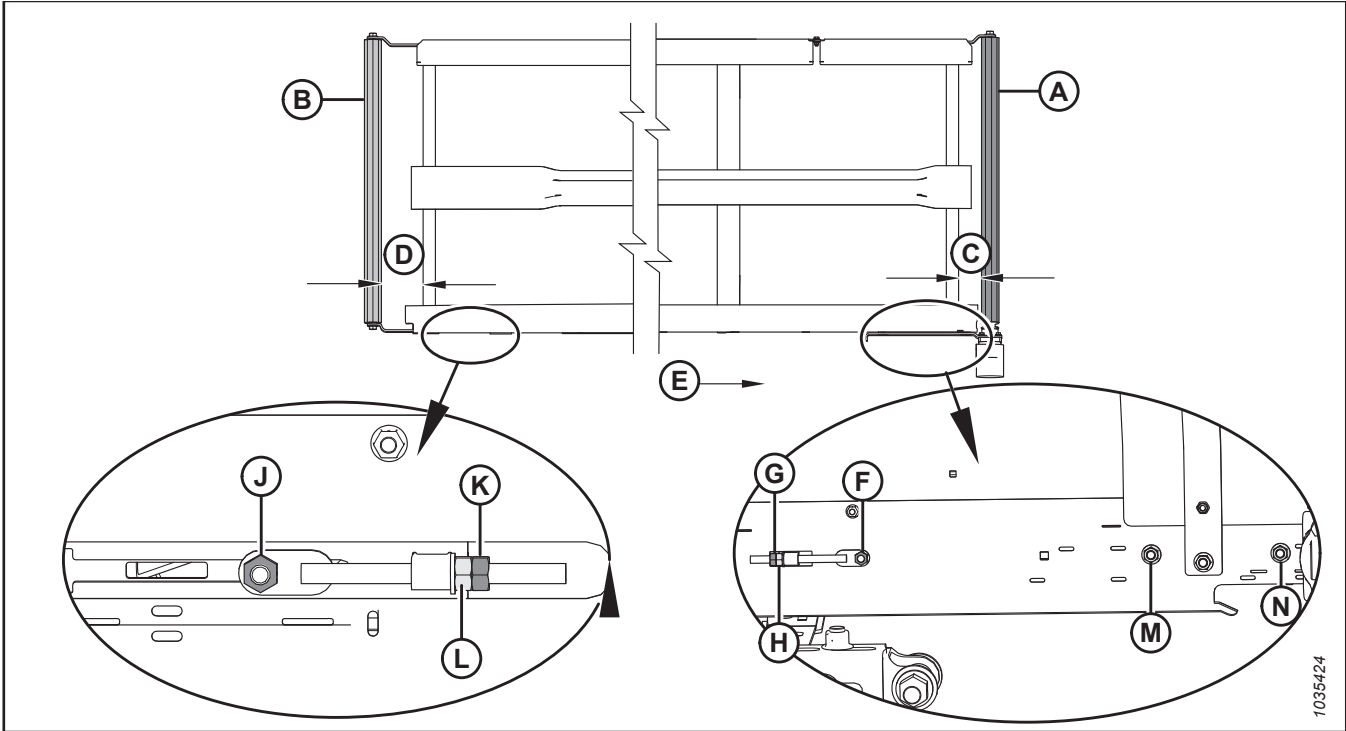

Figure 6.1: Draper Tracking Adjustments – Left Draper
2. Adjust drive roller (A) to change **C** (refer to Table 6.1, page 224 and Figure 6.1, page 224) as follows:
- a. Loosen nuts (F), (M), and (N), and jam nut (G).
- b. Turn adjuster nut (H).
- c. Tighten nuts (F), (M), and (N), and jam nut (G).
3. Adjust idler roller (B) to change **D** (refer to Table 6.1, page 224 and Figure 6.1, page 224) as follows:
- a. Loosen nut (J) and jam nut (K).
- b. Turn adjuster nut (L).